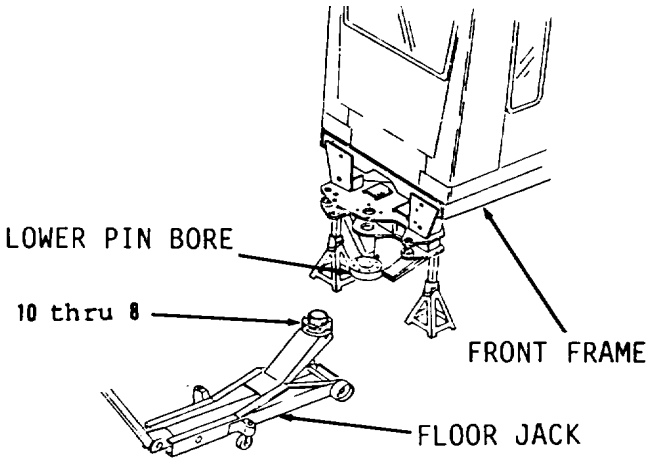

Figure 16-30.
- 10. Install items 10 thru 8 as an assembly (Figure 16-30) in lower pin bore by raising floor jack.